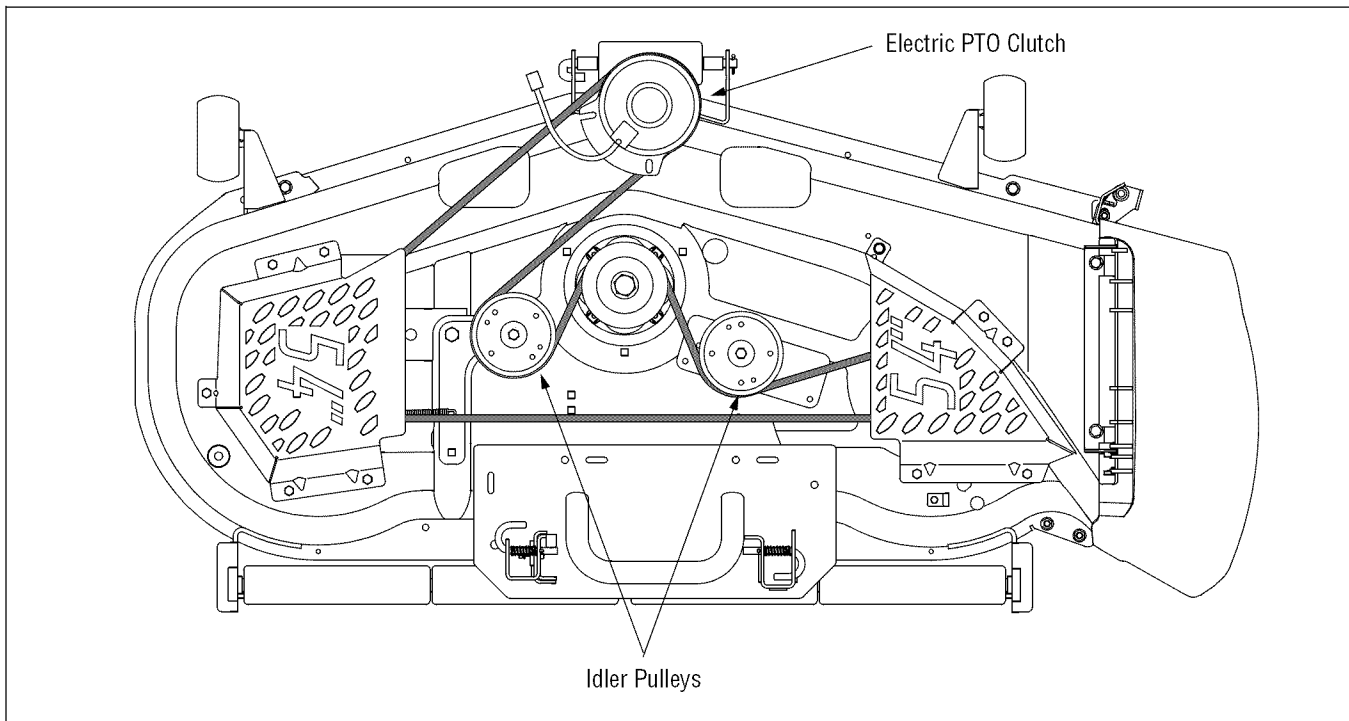

**Figure 18**
- Insert a 3/8"-drive ratchet wrench (set to *loosen*) into the square hole found in the idler bracket on the left side of the deck's surface. See Figure 18.